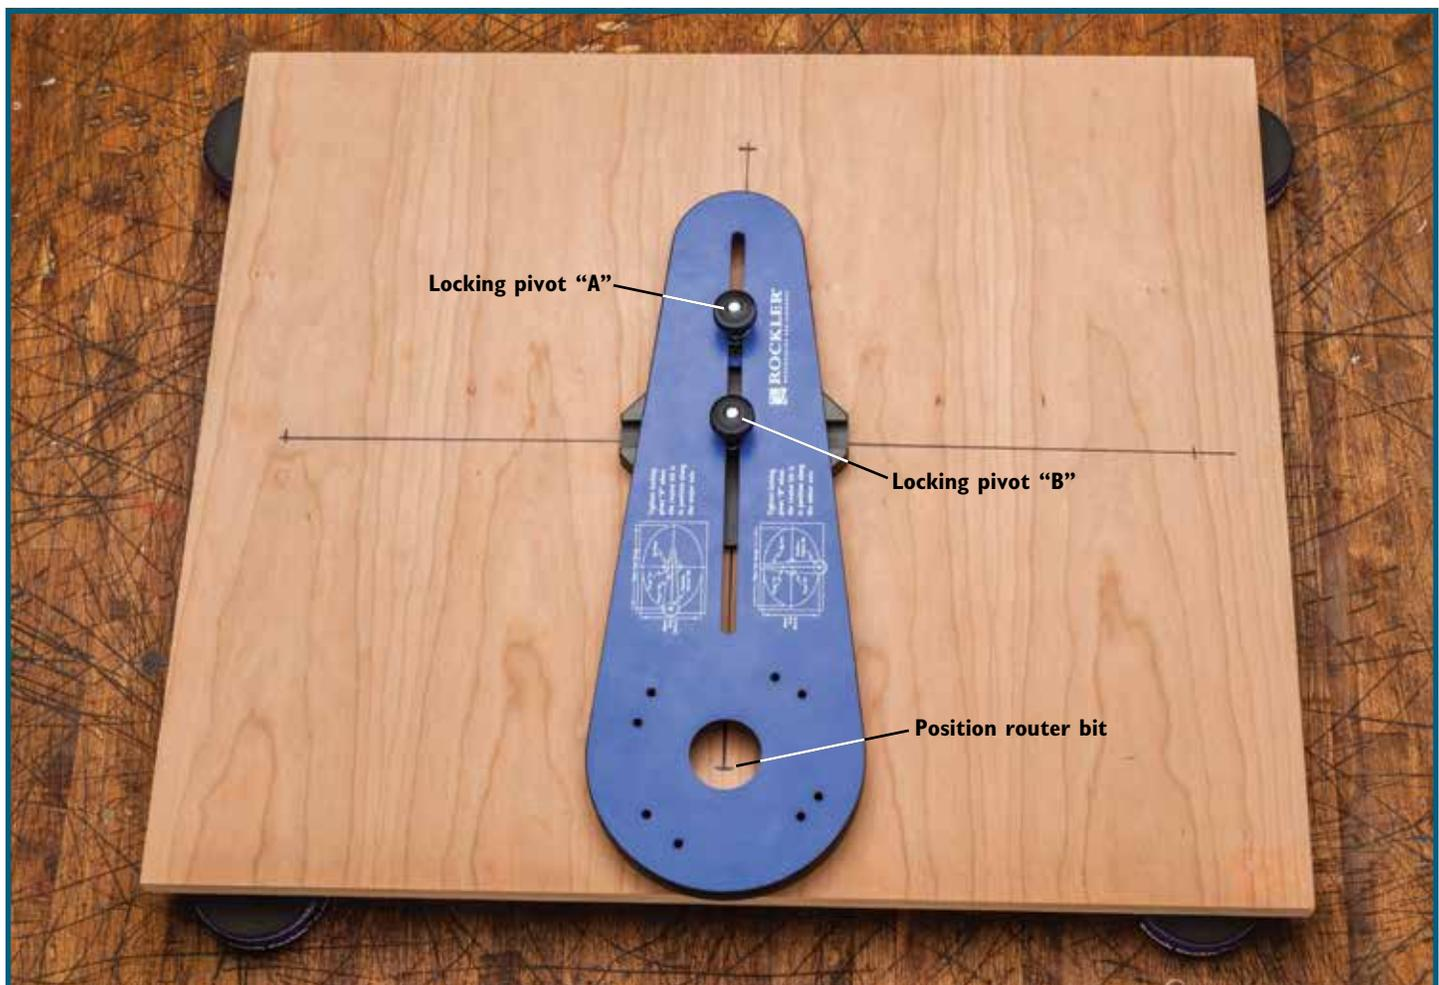

Fig. 5 - Router removed for clarity
6. Rotate the Jig Arm (1) so it's aligned with the minor axis, and adjust it in or out until the bit is positioned as desired to make the cut. Tighten the Locking Pivot on Dovetail Key B. **Fig. 5.**